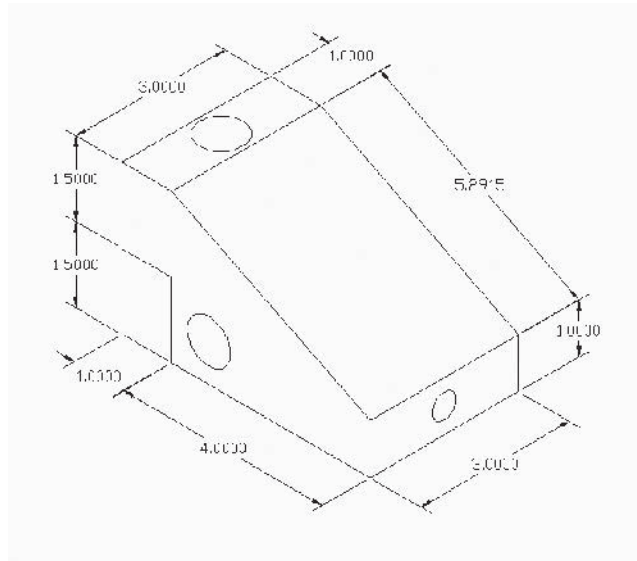

Fig. 38-8
8. Use **DIMEDIT** to correct the appearance of the remaining dimensions so that they match those in Fig. 38-8.
When you are finished, your drawing should look like the one in Fig. 38-8.